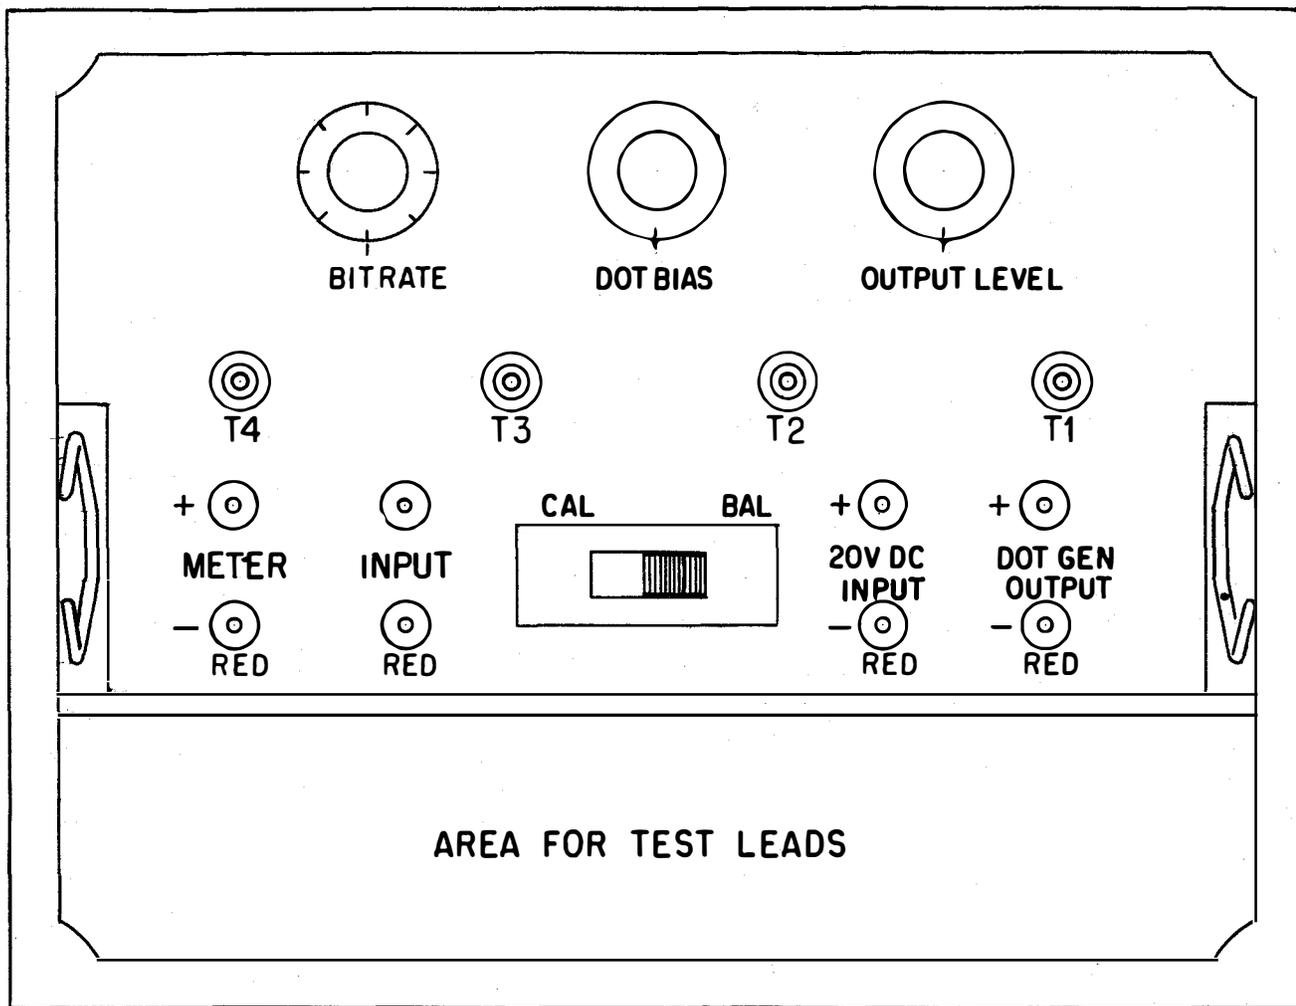

Fig. 1 — Panel of Dot Generator and Measuring Set
1.02 The Dot Generator and Bias Detector portions of the test set are two separate circuits. They are merely installed in a single box for convenience. The over-all size of the instrument is approximately 6-3/4 by 5-1/4 by 2-3/4 inches. Fig. 1 shows the layout of the panel face.
2.10 The Bias Detector circuit (right side of Fig. 1) serves to measure the signal bias or the difference in length of the positive and negative portions of the signal.